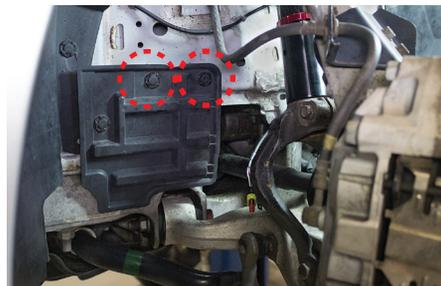

fig. 6
- Remove the top two plastic pins holding the inner fender shield (Fig 6).